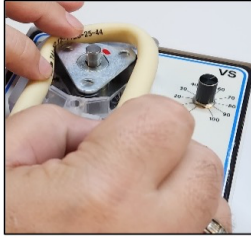

Figure 5
1. With the pump running, insert tube into the channel of the inlet (suction) of pumphead (Figure 5).